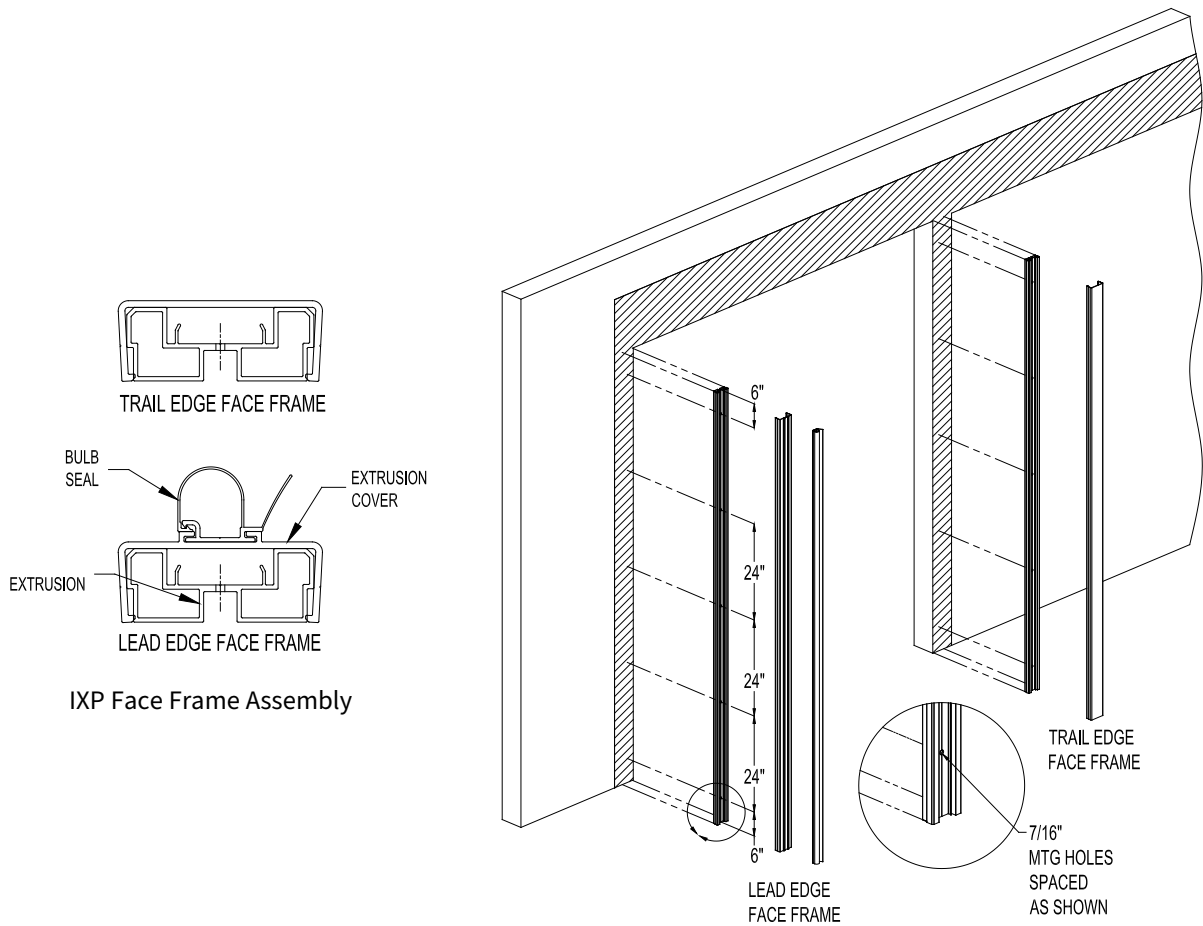

Figure 6: Mounting Face Frames and Inside Trim
Note determine if the floor is level. If the floor is not level, attach the Face Frame to the wall on the high side of the opening (see Figure 6).
- 2 Attach the aluminum face frame extrusions to the wall (Figure 6). Drill holes for face frame anchors. Placement of the screws should start 6" from the floor, then continue every 24" for the full height of the frame.